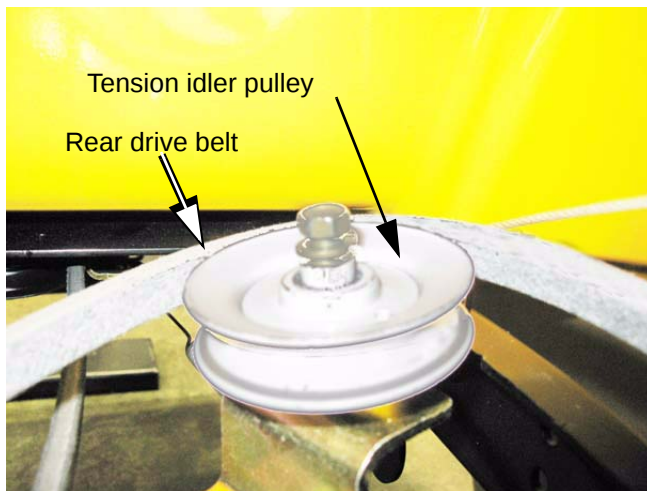

Figure 6.61
- 4c. Lift the pulley far enough to allow the belt to clear the belt keepers. See Figure 6.61.